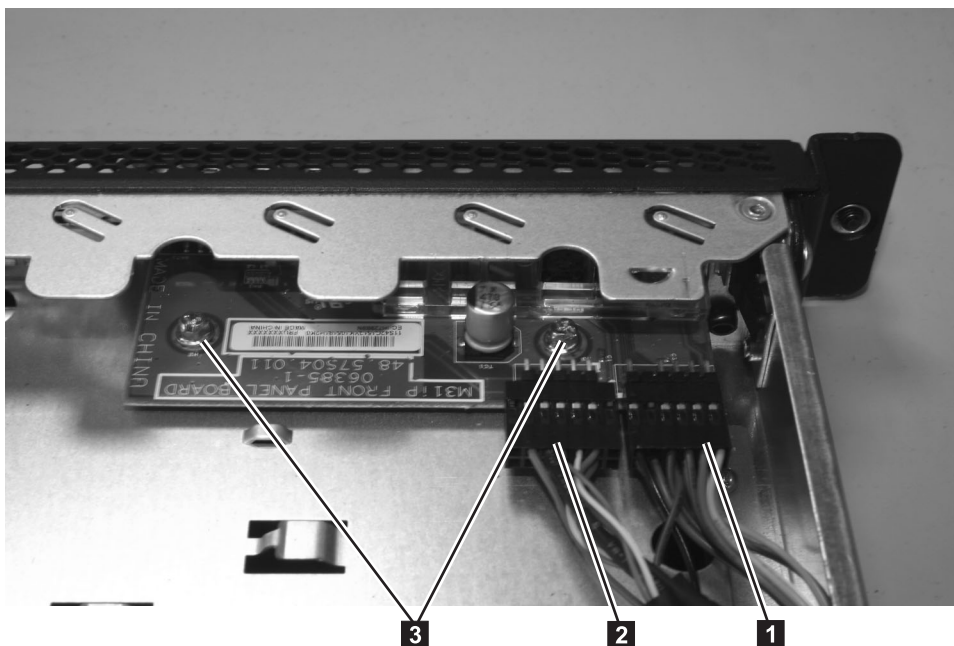

Figure 227. SAN Volume Controller 2145-8A4 operator-information panel
6. Disconnect the light-panel cable **1** and the USB cable **2** from the operator-information panel board shown in Figure 227.